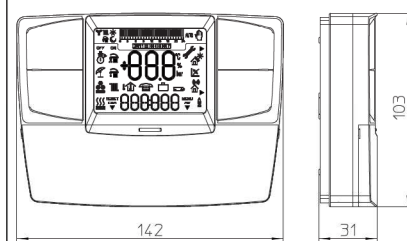
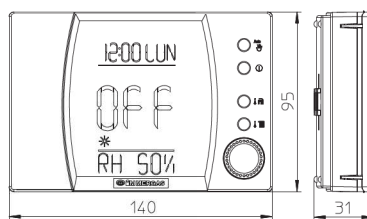

Fig. 1-4
Fig. 1-5
- On/Off digital chrono-thermostat (Fig. 1-4). The chrono-thermostat allows:
- There are two types of remote controls available: Comando Amico Remoto remote control  $V^2$  (CAR $V^2$ ) (Fig. 1-4) and Super Comando Amico Remoto remote control (Super CAR) (Fig. 1-5) both with room chrono-thermostat functioning. In addition to the functions described in the previous point, the chrono-thermostat panels enable the user to control all the important information regarding operation of the appliance and the central heating system with the opportunity of easily intervening on the previously set parameters without having to go to the place where the appliance is installed. The panel is provided with self-diagnosis to display any boiler functioning anomalies.